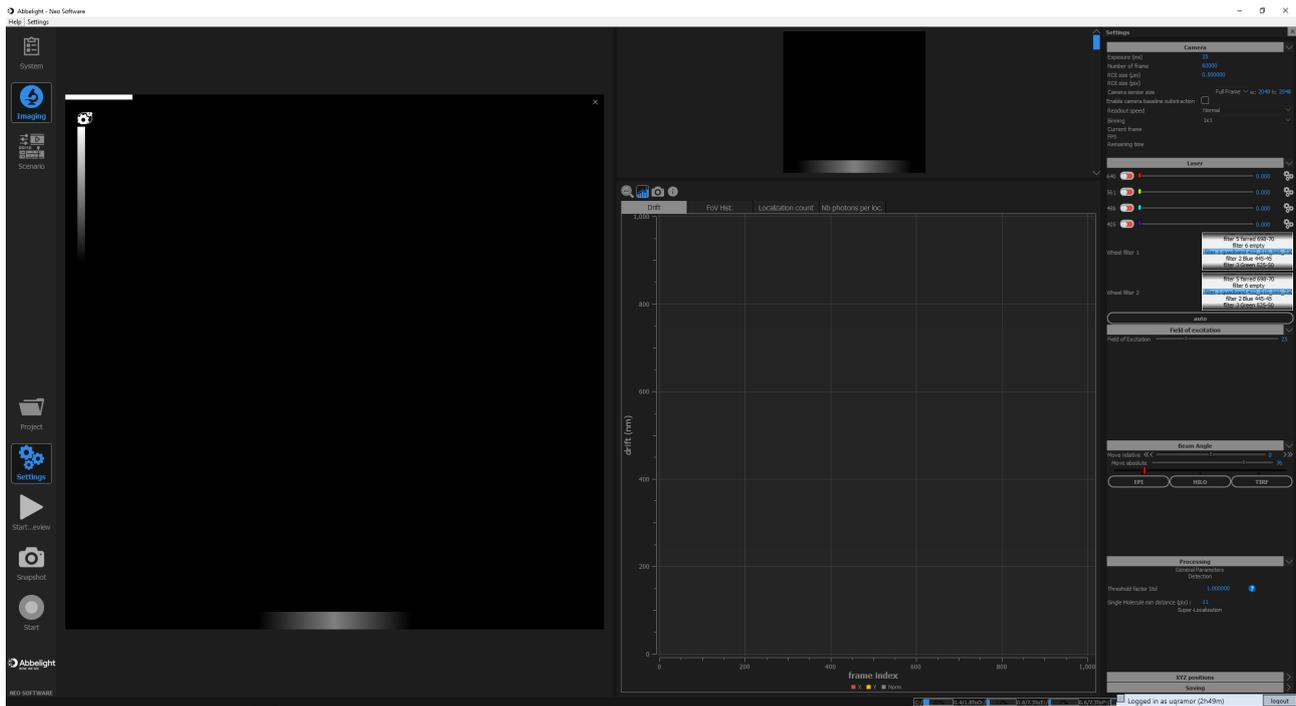

Figure 11: Settings tab.
7. Click on “Settings” to show the settings tab (Fig. 11).